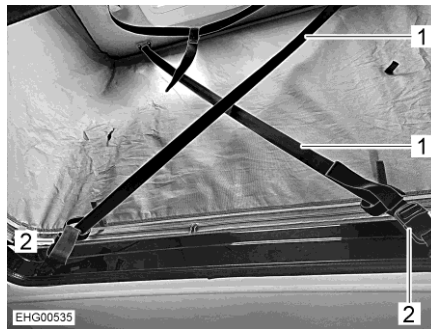

Fig. 54 Wind protection
- Pull out both retaining belts (Fig. 54,1) completely.
- Attach the retaining belts diagonally to the belt locks (Fig. 54,2).